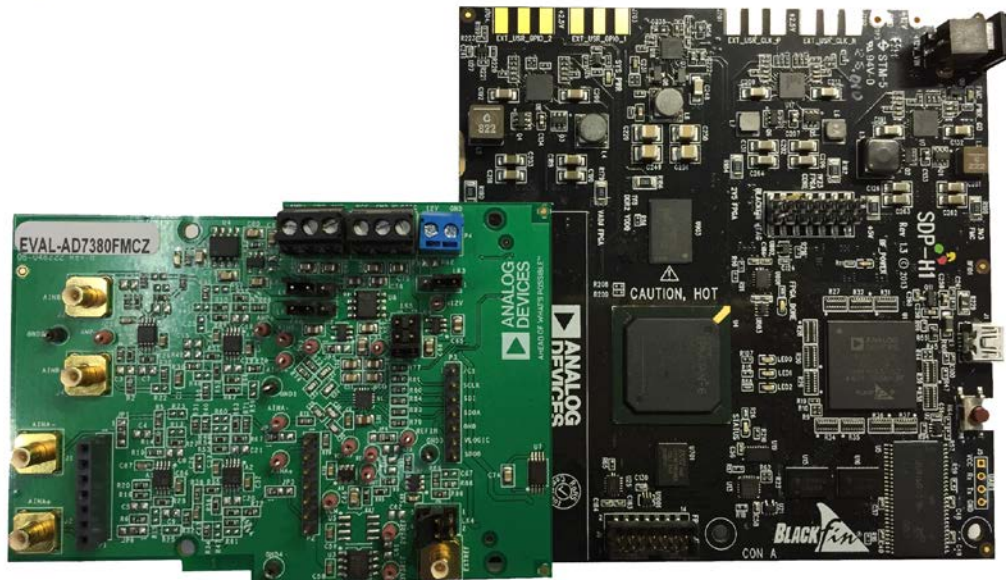

Figure 2. EVAL-AD7380FMCZ Evaluation Board (Left) Connected to the EVAL-SDP-CH1Z Board (Right)
3. Connect the EVAL-SDP-CH1Z board to the EVAL-AD7380FMCZ or EVAL-AD7381FMCZ, as shown in Figure 2.
The EVAL-AD7380FMCZ and EVAL-AD7381FMCZ connect to the **EVAL-SDP-CH1Z**. The **EVAL-SDP-CH1Z** is the controller board, which is the communication link between the PC and the EVAL-AD7380FMCZ or EVAL-AD7381FMCZ. Figure 2 shows a diagram of the connections between the EVAL-AD7380FMCZ evaluation board and the **EVAL-SDP-CH1Z**.